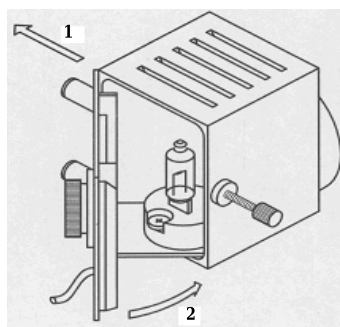

Fig 6-6 Close the Bulb House
5. Push the back cover in the direction of arrow 1 indicated in Figure 6-6. Then close the bulb house in the direction of arrow 2 in Figure 6-6.